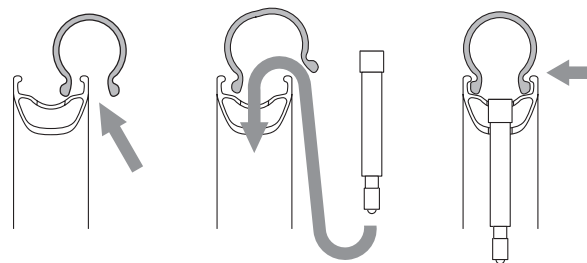

Fig. 2
- Fit the first of the two tyre beads into the rim groove starting from opposite the valve (Fig. 2).